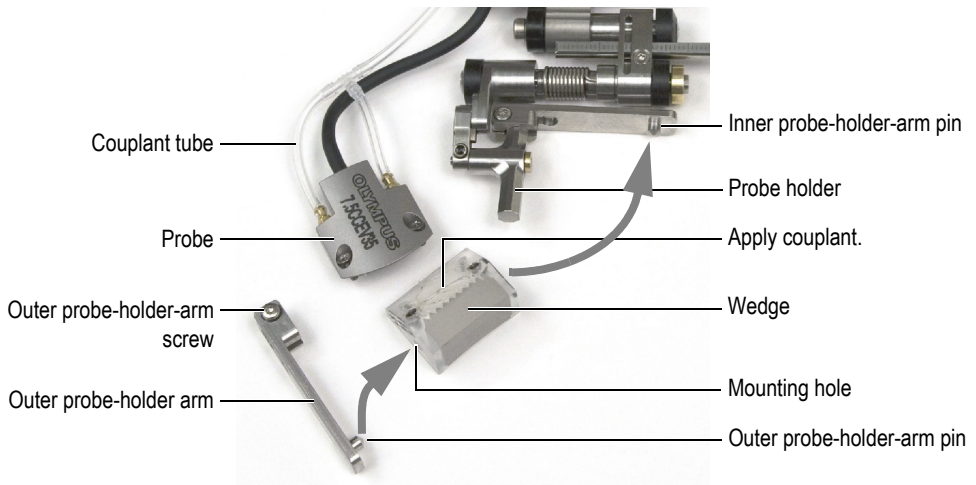

Figure 2-5 Changing the wedge on the scanner
1. Remove the outer probe-holder arm (see Figure 2-5 on page 35):